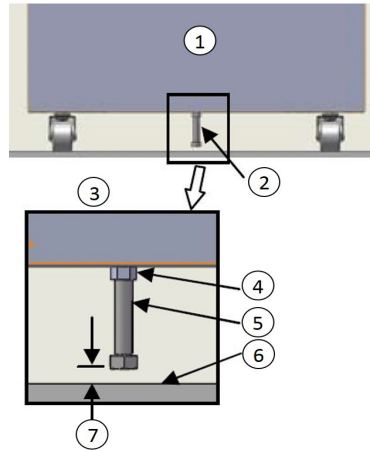

Figure 2. Bolt Location
- b. Unscrew 1/2" bolt until there is 1/2" clearance between floor and head of bolt as shown in *Figure 2*.